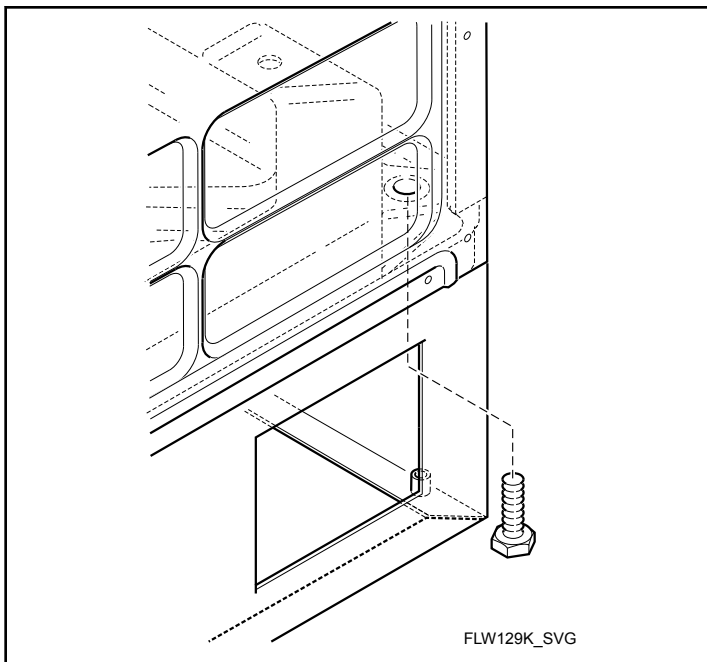

Figure 6
15. Attach washer to pedestal by placing two 1/2-inch screws from back of pedestal into threaded holes on back of pedestal. Refer to *Figure 6* . After partially installing all four, tighten all four screws.